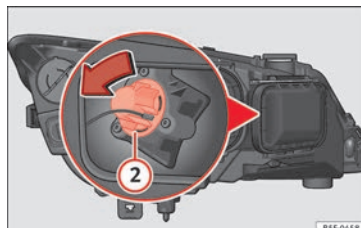

Fig. 106 Turn signal bulb.
- Turn the bulb holder »» Fig. 106 ② anti-clockwise and pull.